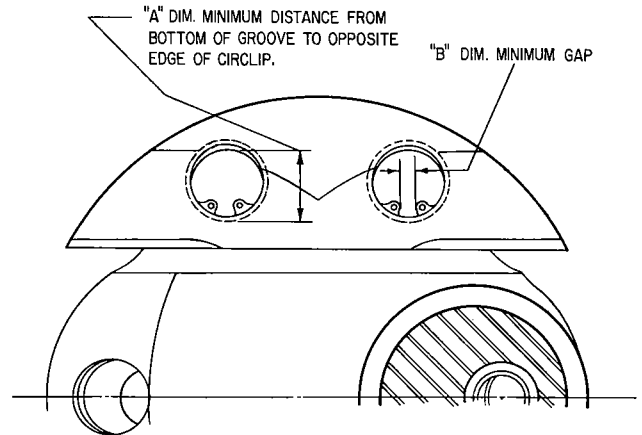

Figure 7-11. Location of Gap When Installing Retaining Rings
7-52. Counterweight Assembly. (Figure 7-3). When assembling the counterweights which have previously been installed on the engine, use the identifying marks made on the various parts during the disassembly. To enable matching each washer to the proper seat on the counterweight from which it was removed. Install washer (19) with chamfered side toward the roller and retainer ring (18) with the sharp edges toward the outside on one side of the counterweight. (See figure 7-11). Place the counterweight on the proper crankshaft lobe, insert the proper roller and secure the assembly by installing the washer (19) and retaining ring (18) as stated above. After the installation of the retaining ring the gap must be in the position as shown in figure 7-11. Insert one end of the counterweight retaining ring gap gage P/N 64892-2, between the ends of the ring, making sure the gage is resting in the bottom of the groove. The gage must pass between the ends of the retaining ring and must clear the inside edge at the top of the retaining ring. If the gage does not enter the gap of the retaining ring and clear the top of the ring, the ring is not completely seated in the groove properly. Make sure that all rings are seated in the proper position. Consult the latest edition of Service Instruction No. 1012 for the correct location of each counterweight on the crankshaft.